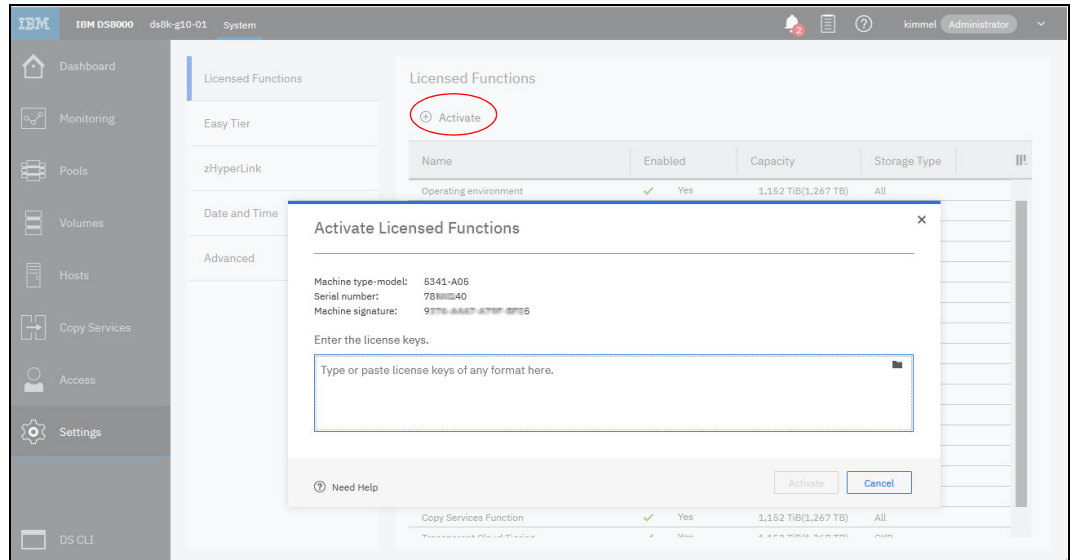

Figure 7-8 Licensed Functions
10. If you must activate more feature keys after the initial installation, click the **Settings** icon in the left menu, select **Licensed Functions**, and click the **Activate** icon, which opens another window where you enter the keys, as shown in Figure 7-8.